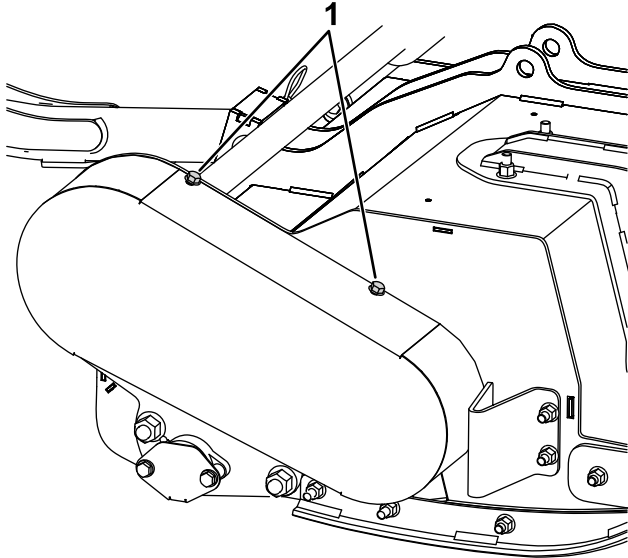

Figure 26
2. Loosen the 4 captive bolts that secure the top and bottom of the belt cover to the machine (Figure 26).
9. Install the belt cover (Figure 26).
2. Remove the belt cover (Figure 26).